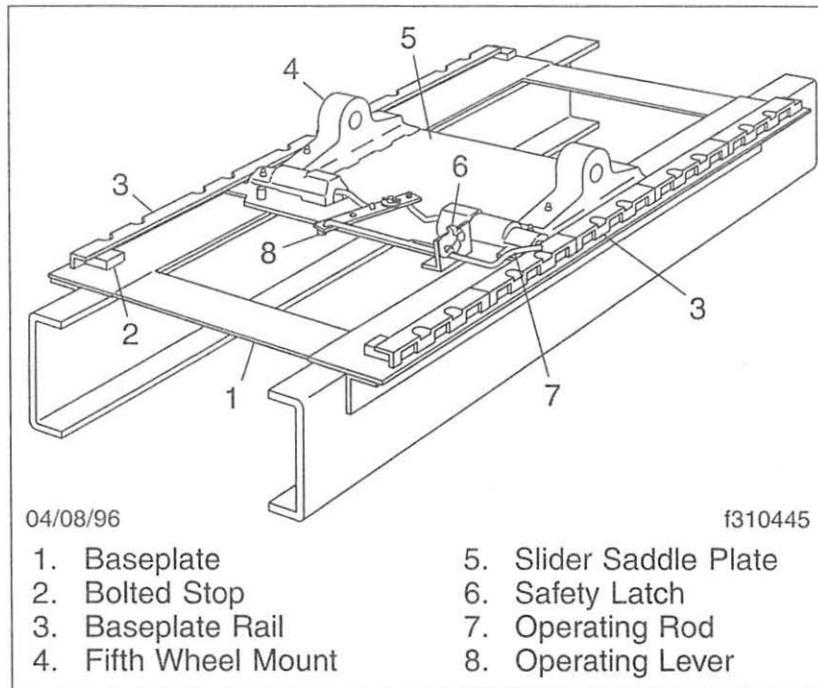

Fig. 10.9, Taperloc Slide, Manually-Operated Release
frame in a position that best distributes the trailer load over the tractor axles. When used as a sliding fifth wheel (**Fig. 10.9**), they are mounted on the Taperloc® sliding mount (air-operated or manual release).
The manually-operated slide contains an operating rod (**Fig. 10.9**), which unlocks both sides of the plate at the same time.
Before attempting to lock the fifth wheel lock mechanism of a sliding type fifth wheel, the slide locking handle (Fig. 10.9) must be in the locked position. This prevents the sliding member from moving rapidly to the far forward or rearward position, which could damage the fifth wheel member or kingpin.
Before attempting to unlock the fifth wheel lock mechanism of a sliding type fifth wheel, the slide operating rod (Fig. 10.9) must be in the locked position, and the slide lockpins must be in the locked position (fully inserted in baseplate rail slots. This prevents the sliding member from moving rapidly to the far forward or rearward position, which could damage the fifth wheel member or kingpin.
- 3.2 For manually-operated models, raise the safety latch and pull the slide operating rod (**Fig. 10.9**) outward until the shoulder is outside of the operating rod support, then lower the operating rod as far as it will go.